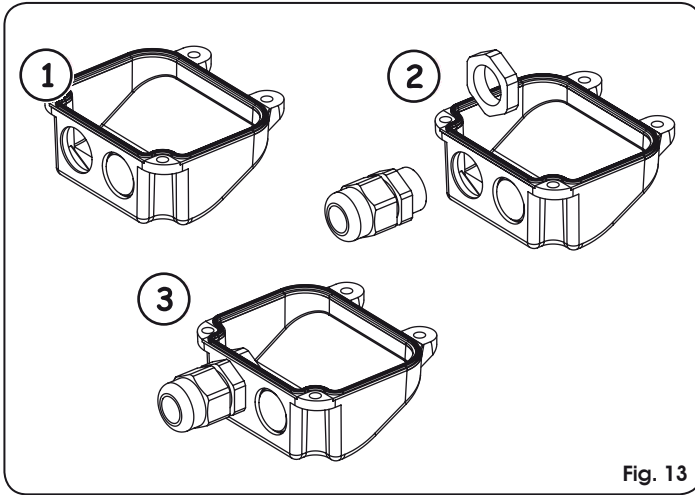

Fig. 13
1. Open one of the two pre-drilled holes in the supplied cover, Fig. 13; in case of operators with limit switches, open both holes.